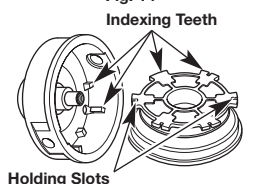

Fig. 15
6. Check the indexing teeth and holding slots for wear (Fig. 15). If necessary, remove burrs or replace the inner reel and outer spool.